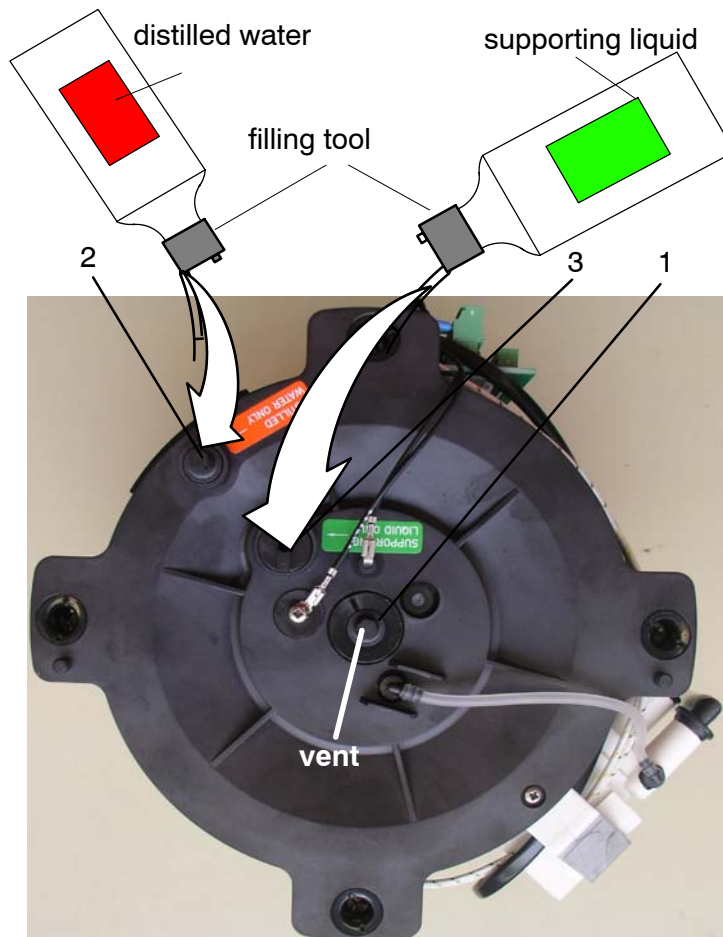

Figure 46: Filling with liquids
(see Figure 46)
- Undo the three plastic screws (Figure 46/1-3) on the upper outer sphere